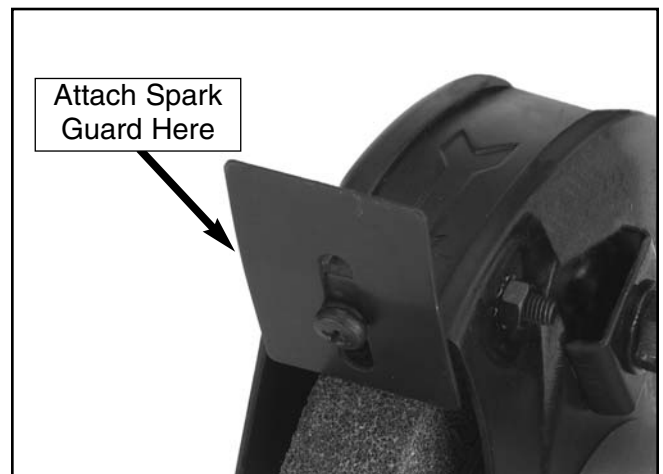

Figure 7. Spark guard attached to rim guard.
1. Using the included 5mm screw and washer, install the spark guard as shown in **Figure 7**.